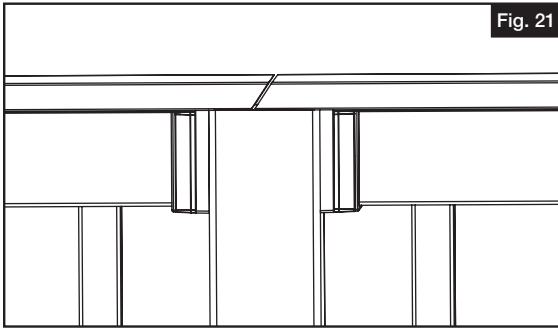

Fig. 21
- If installing deck board over the top of the posts and the railing run length is greater than the maximum length of deck board, you will need to have a connection seam. It is recommended to do 45 degree miter joints at the corners and 22.5 degree scarf joints (Fig. 21) for in-line connections. Seal joints with glue or caulk.